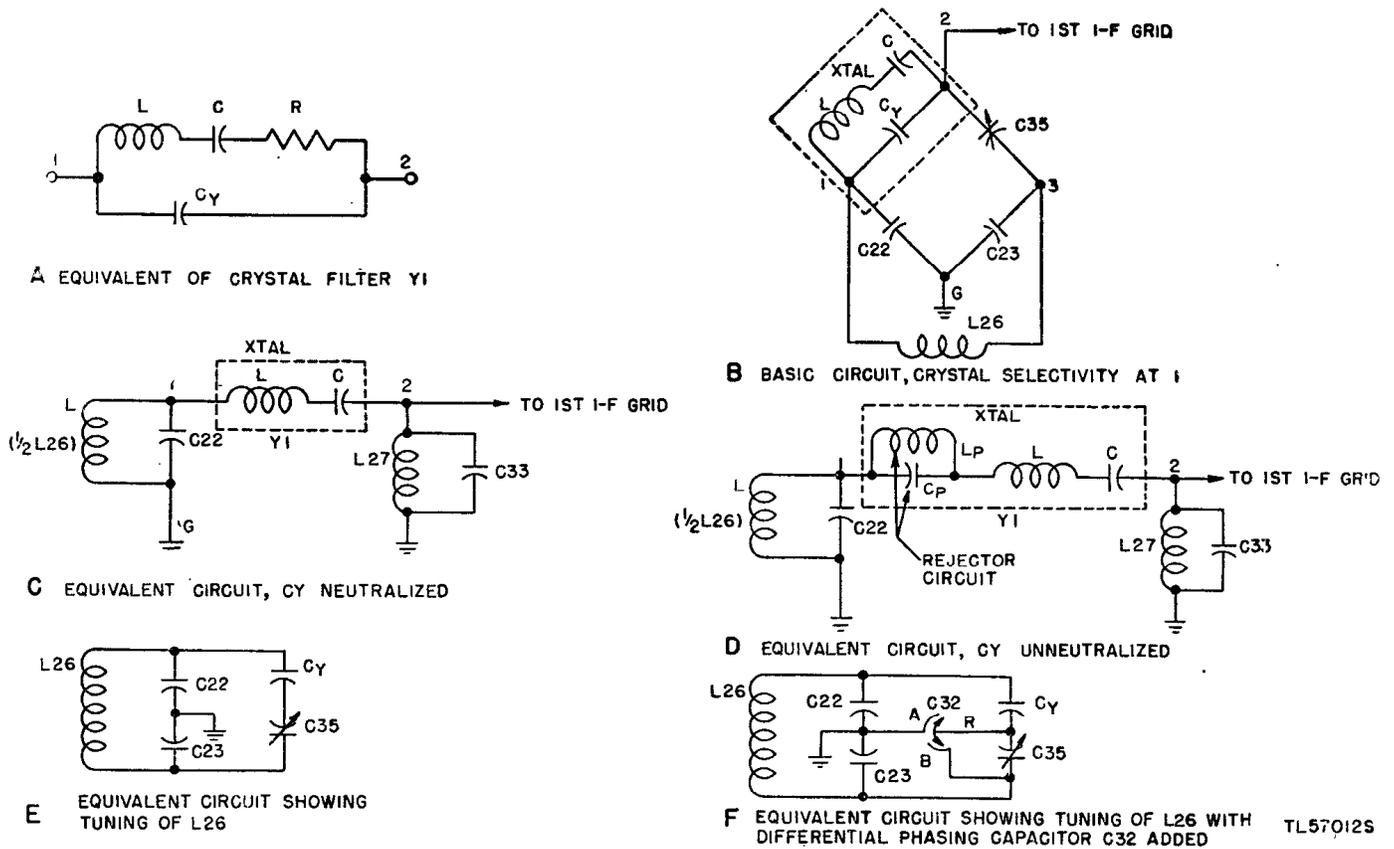

Figure 28. Radio Receiver BC-779-B, functional and equivalent diagrams of crystal filter circuit.
(4) Refer to appendix III for circuit details of Improvement Kit MC-531.
61. Crystal Filter (fig. 28)
a. EQUIVALENT CRYSTAL CIRCUIT. The equivalent electrical circuit of a crystal is shown in "A," figure 28. The circuit, and hence the crystal, are resonant at two frequencies: The frequency at which the reactance of L is equal to the reactance of C (series resonance), and the frequency at which the effective reactance of L-C (in series) is *inductive* and *equal* to the capacitive reactance of C_Y (parallel resonance). At the series-resonant frequency the crystal acts as a low-impedance connection between 1 and 2. At the parallel-resonant frequency the crystal acts as a high impedance between 1 and 2.
b. BASIC FILTER CIRCUIT ("B," fig. 28). Capacitors C22 and C23 (100 mmF each) are connected in series across the secondary of i-f input transformer L26, and their junction is grounded to provide a midpoint connection in the resonant circuit L26-C22-C23. Consequently, the capacitor voltages are always of equal amplitude but 180° out of phase. Phasing capacitor C35 (1.5 to 5 mmF) is connected between 3 and 2, and the crystal is connected between 1 and 2.
c. NEUTRALIZATION OF C_Y . Capacitors C22, C23, C35, and C_Y (the capacity between the crystal holder plates) form a capacity bridge; the input is applied to 1 and 3, the output is taken from 2 and G. When capacitor C35 is adjusted so that its capacitance is equal to that of C_Y , the voltage coupled from 3 through C35 to 2 is equal and opposite to the voltage coupled from 1 through C_Y to 2. Under this condition C_Y is neutralized and the crystal acts as a series-resonant circuit only ("C," fig. 28). Since the crystal is resonant at the intermediate frequency, there is (in effect) a direct connection between 1 and 2. As indicated in "C," figure 28, only the voltage across C22 (one-half the secondary voltage) is applied through the crystal to the grid circuit of the first i-f stage.
tance of $L-C$ and the capacitive reactance of C_Y . For simplicity the parallel-resonant circuit is denoted as rejector circuit $L_P C_P$ in "D," figure 28. L_P and C_P denote the effective inductance and capacitance at the parallel-resonant frequency. L and C indicate the effective inductance and capacitance of the crystal at the series-resonant frequency, in this case the 465-kc i.f. In other words, unless C_Y is neutralized, the crystal acts simultaneously as a parallel- and series-resonant circuit. The parallel-resonant circuit $L_P C_P$ has no effect on the 465-kc i.f. but presents a high impedance to, and therefore rejects, the frequency to which $L_P C_P$ is resonant. L and C present extremely low impedance to the 465-kc i-f signal voltage and high impedance to voltages at different frequencies. *With underneutralization the resonant frequency of $L_P C_P$ is higher than 465 kc.*
f. CAPACITOR C32. Capacitor C_{35} , in series with capacitance C_Y , is across L_{26} and affects its tuning ("E," fig. 28). To avoid the detuning effect and to enable shifting the rejection frequency to either side of the i.f., differential PHASING capacitor C_{32} ("F," fig. 28) is used in the radio receiver. Stator sections A and B are so arranged that, as rotor R is turned out of one stator into the other, the capacitance of the first *decreases* by the same amount that the capacitance of the second *increases*. Thus, whether the rotor is entirely engaged in stator A, is at a midpoint, or is entirely in stator B, the effective capacitance across A-B, and therefore across L_{26} , remains constant. Assume that C_{32} , the PHASING capacitor, is set at the arrow position of the PHASING control on the front panel and
(2) CRYSTAL SELECTIVITY switch at 1. When CRYSTAL SELECTIVITY switch SW7 is placed at 1, the short is removed from the crystal. If the secondary of L26 and the parallel-resonant grid circuit, L27-C33, are tuned to 465 kc, each is the equivalent of a high resistance in series with the equivalent series-resonant circuit of the crystal ("C," fig. 28). Consequently, the Q and therefore the selectivity of the series-resonant (crystal) filter circuit is reduced, and the bandwidth is several kilocycles wider than that of the crystal alone.
(3) CRYSTAL SELECTIVITY at 2, 3, 4, or 5. Advancing the CRYSTAL SELECTIVITY switch